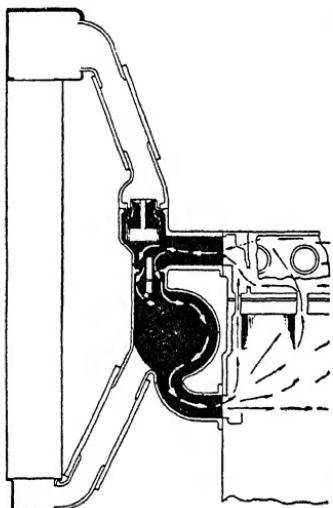

Fig. 16. Buick Cooling System Recirculation
**Buick Thermostat.** The circulation of the cooling fluid within the cooling system of the Buick engine is illustrated in Figs. 16 and 17. The flow of the cooling solution is thermostatically controlled,
the by-pass type of water temperature control being used. This system permits the water pump to circulate the coolant to the engine during the warm-up period without passing through the radiator, thus allowing the engine to reach its normal operating temperature quickly. This recirculation is illustrated in Fig. 16 where it will be noted that the thermostat permitting water to circulate to the radiator is closed and the water merely leaves the top of the cylinder block and is forced back into the lower portions of the cylinder block water passages. This control is accomplished by means of a thermostat which is located in the passage of the
cylinder head water-outlet and its spring loaded valve located in the water passage between the cylinder head water outlet and the water pump inlet, as shown in Figs. 16 and 17.
The spring loaded valve is somewhat smaller than the neck where it is located and this allows of a fixed orifice. The total area of the orifice is equivalent to a  $\frac{1}{2}$ -inch hole and permits a thermo-siphon circulating when the engine is not running, cutting down the effect of what is termed "after-boil." "After-boil" refers to the stagnating of the coolant in a hot engine when the pump is not circulating the solution. During the time that the coolant is below normal operating temperature and the engine is running, it is blocked from circulating through the radiator by the thermostat valve. The pump pressure forces the coolant through the by-pass valve and allows the coolant to recirculate through the cylinder block and head, as shown in Fig. 16. When the coolant has reached a temperature of 148 to 153 degrees, the thermostat valve starts to open and the circulation proceeds in the normal way. At approximately 170 degrees the thermostat is fully open, relieving the water pump pressure on the by-pass valve which automatically closes.